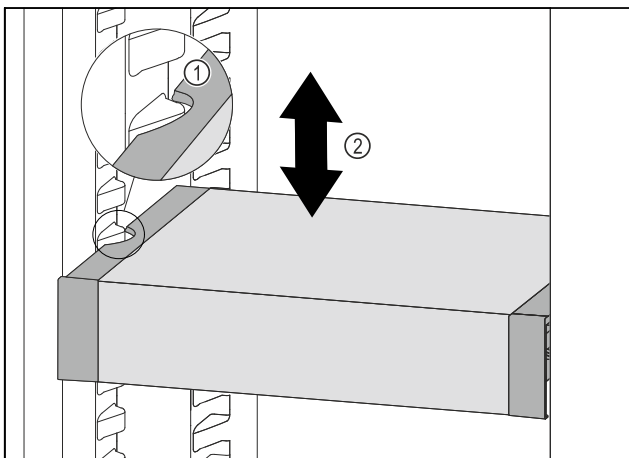

Fig. 103
- ▶ Pull VarioSafe forwards until the recesses in the side of the VarioSafe are at the level of the support rib in the refrigerator compartment. *Fig. 103 (1)*
- ▶ Move VarioSafe up or down in the refrigerator compartment until the desired height is reached. *Fig. 103 (2)*